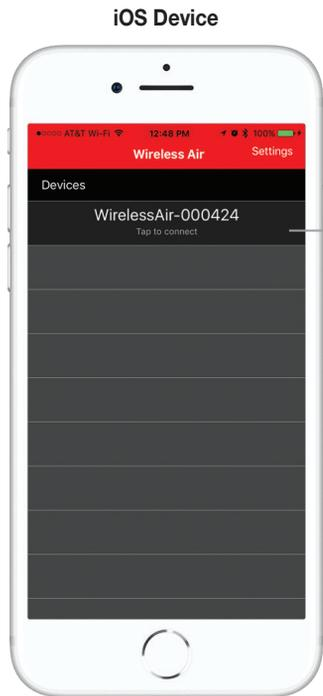

fig. B.1
3. The app will automatically go to the devices screen if no connected manifold is detected. Click on the device you want to pair. The manifold will have WirelessAir in the title, along with the serial number. Each device also shows the connection status (Fig. B.1 or B.2).